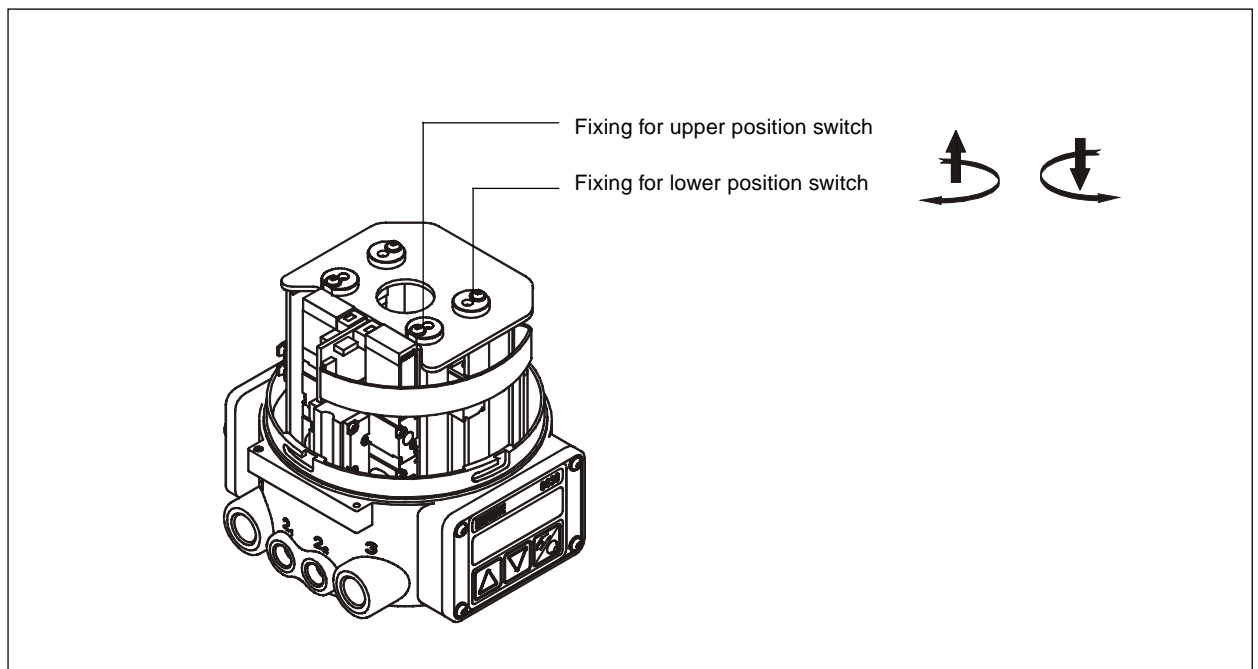

Bild 5.4: Setting of the initiators with the setscrews
- ➔ Mount each position switch at the top over the fixing screws. (Fig. 5.4):